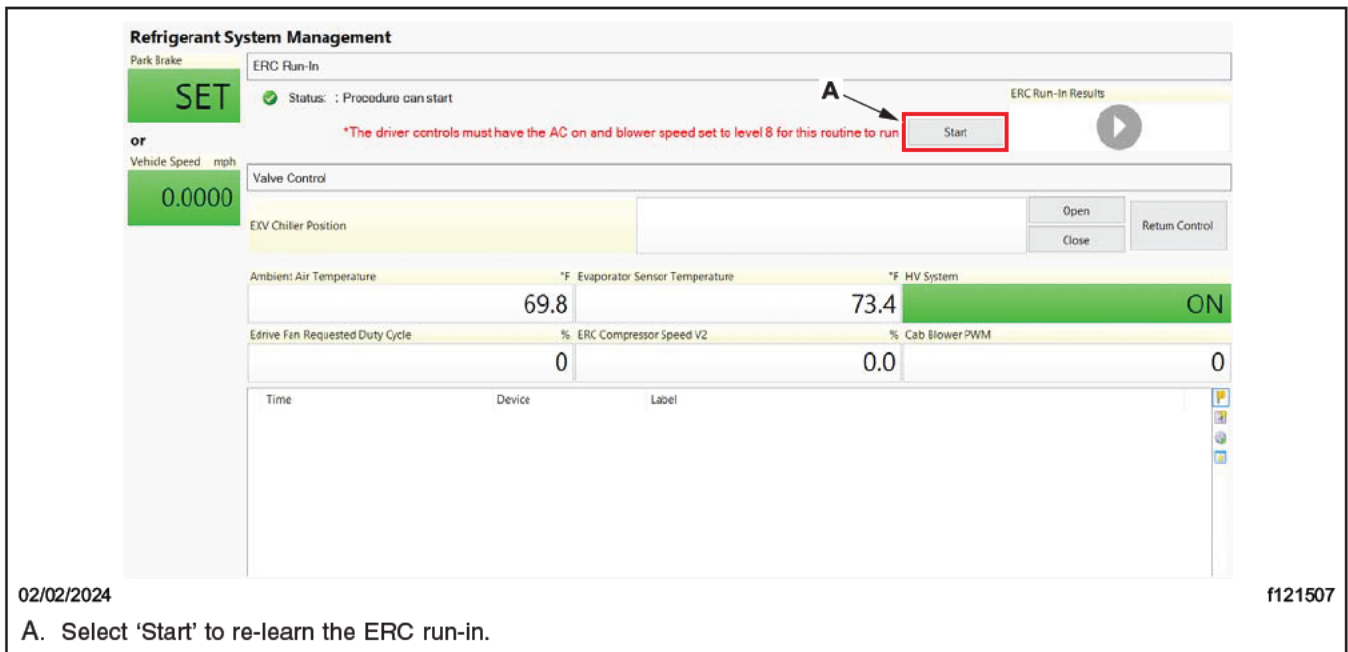

Fig. 11, ERC Run-In Panel
- 64.3 Select 'Start' to re-learn the ERC run-in. See Fig. 11.